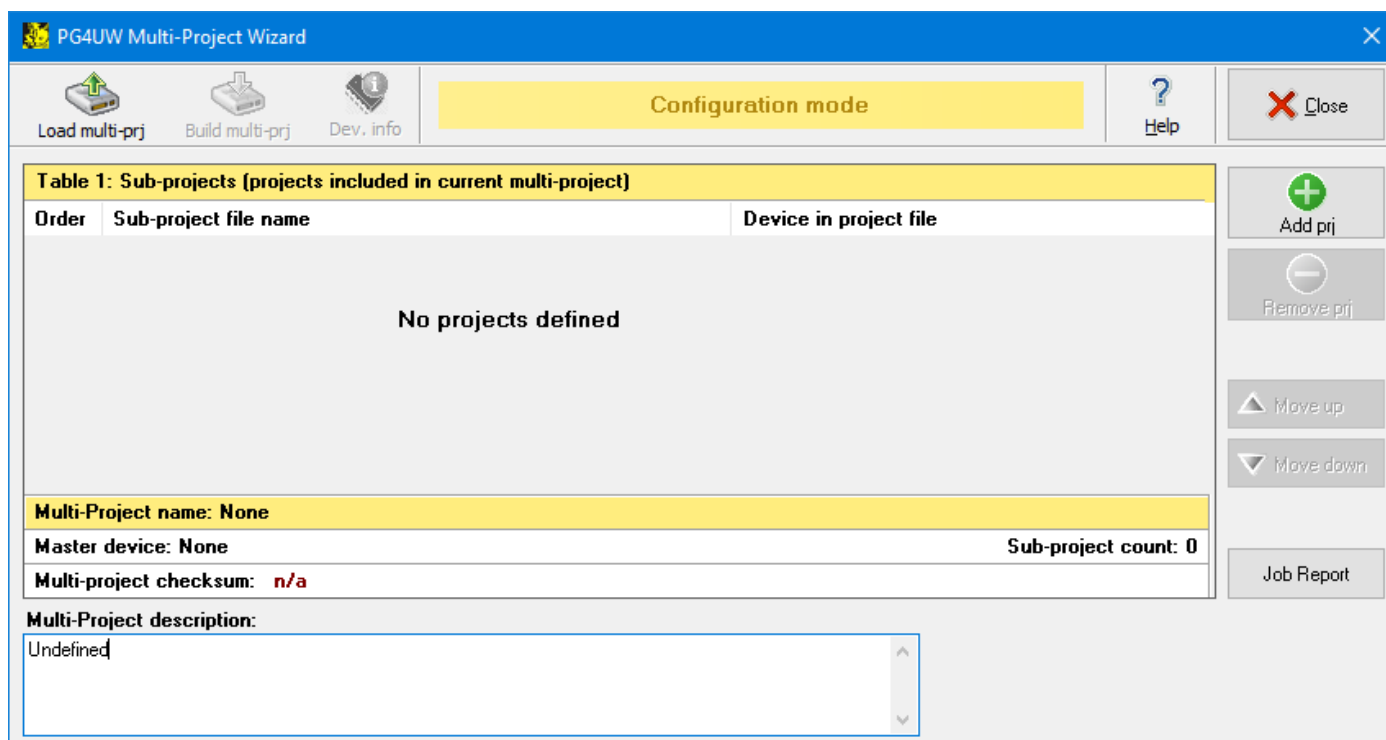

Figure 35: Empty Pg4uw Multi-Project Wizard window.
Multi-Project Wizard is a dedicated tool for working with Multi-Project files. The Multi-Project file can be created only using Multi-Project Wizard (see Figure 35). The Wizard can be accessed from Pg4uw menu **Options / Multi-Project Wizard**, or using a key short-cut **<Ctrl+M>**.
- Launch Multi-Project Wizard (see Figure 35) using **<Ctrl+M>** shortcut or **Options / Multi-Project Wizard** menu.